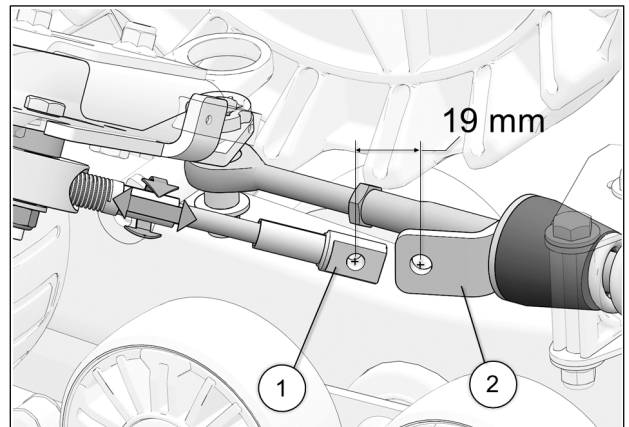

Fig. 24
13. Turn the vehicle's steering wheel to its maximum point of travel on the left. While maintaining pressure on the steering wheel, turn threaded rod to adjust length of cable. See Fig. 24
14. Position cable end hole (1) 19 mm [ $\frac{3}{4}$  in. ] short of support plate (2) mounting hole. See Fig. 24